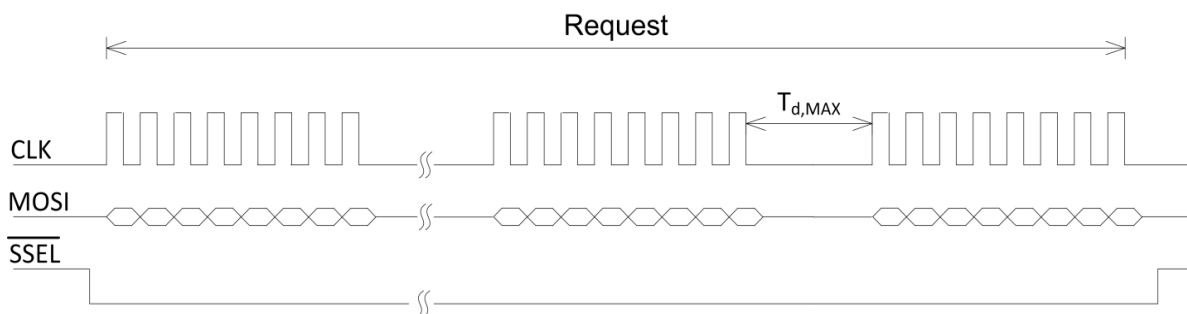

Figure 9-5 SPI Request Timing
- For the request data on the MOSI line, the host software should keep the SSEL pin at steady state low as shown in Figure 9-5 below.